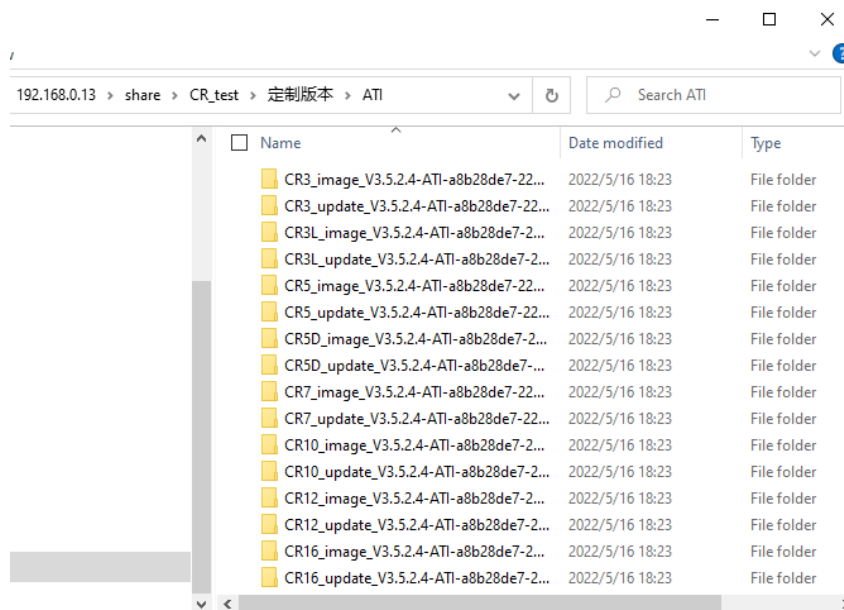

Figure 3.1 Update controller
Step 1 Update the robot controller to ATI test version, as shown in Figure 3.1.